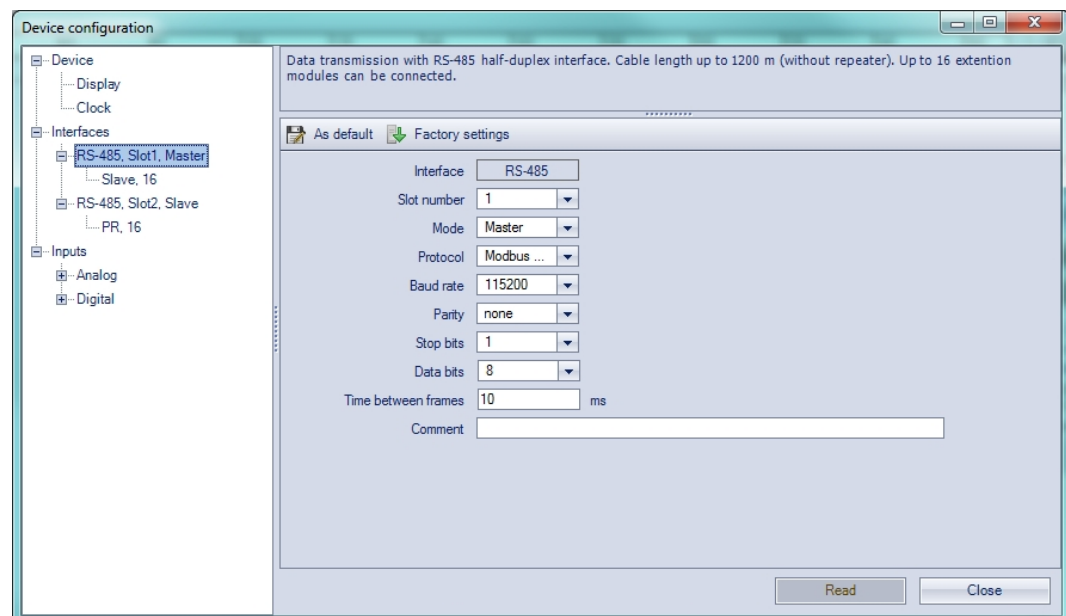

Fig. 4.5 Master configuration in master mode
- Time between frames – the time span the master waits between the last response (or timeout) and the next request (Fig. 4.5).